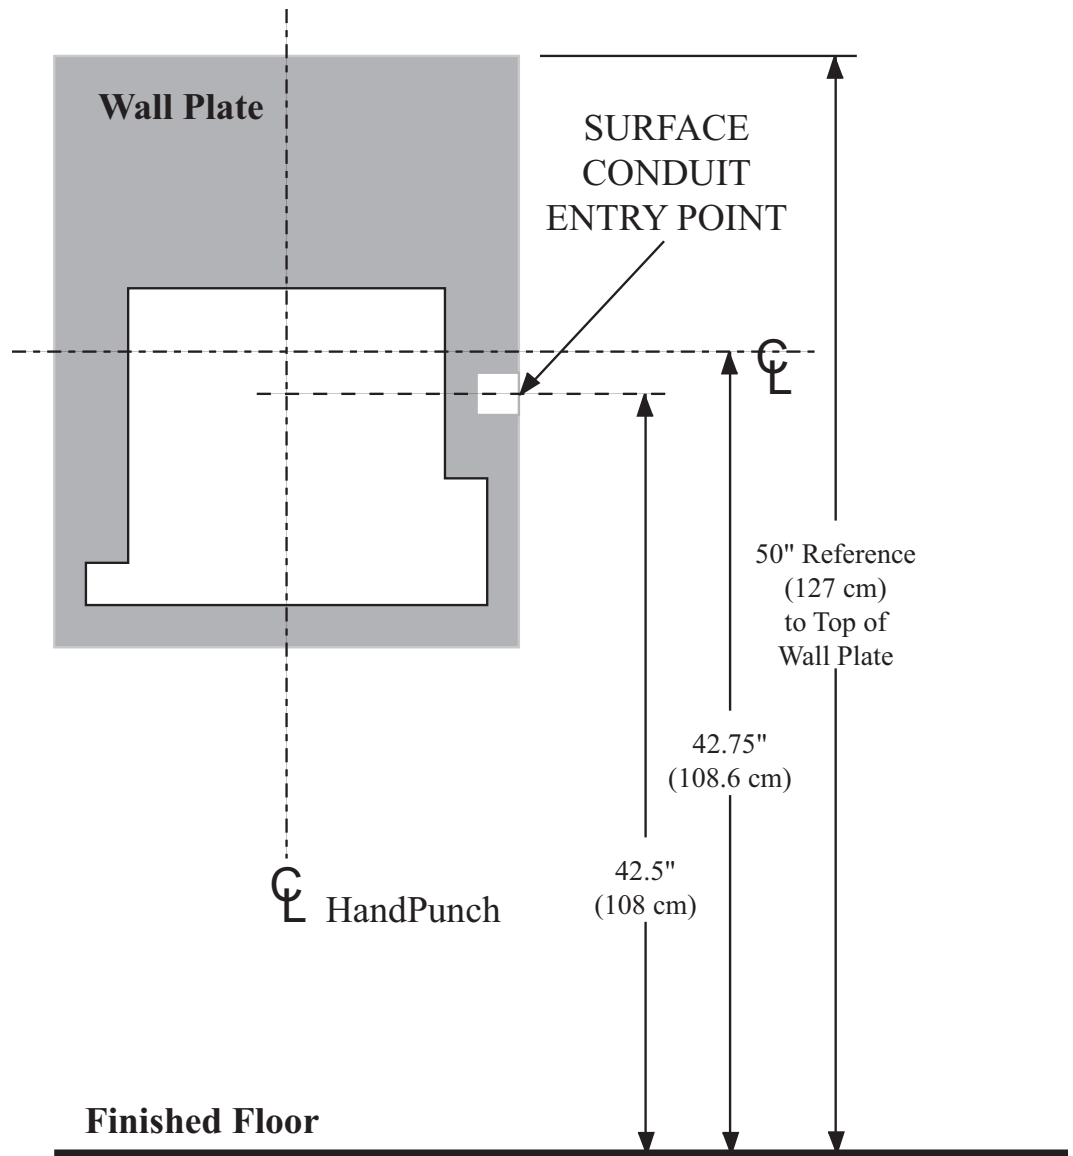

Figure 3-2: HandPunch Wire Routing Layout
Before you begin installation, check the site blueprints, riser diagrams, and specifications for important information about HandPunch location and for other systems that connect to the HandPunch. Look for any existing wall preparations and wiring that other contractors may have installed for the HandPunch. A wire routing layout diagram (see Figure 3-2 on page page 15) is provided to assist in planning wire routing.
To make the modem connection, a telephone jack must be installed on or in the wall behind the modem HandPunch terminal. Position the RJ-11 jack location using the template provided in this manual (see Figure 3-2 on page page 15). The short black cable provided with the modem HandPunch connects the terminal to the telephone jack. Figure 4-4 on page page 19 a wiring diagram for a modem to host computer connection.
1. Refer to Figure 3-2 on page page 15 for a template diagram to assist in routing wiring.